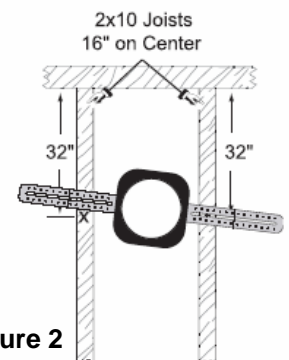

Figure 2
- Attach one end of the bracket with a drywall screw through the adjustment channel into the measurement mark. (See Figure 2)